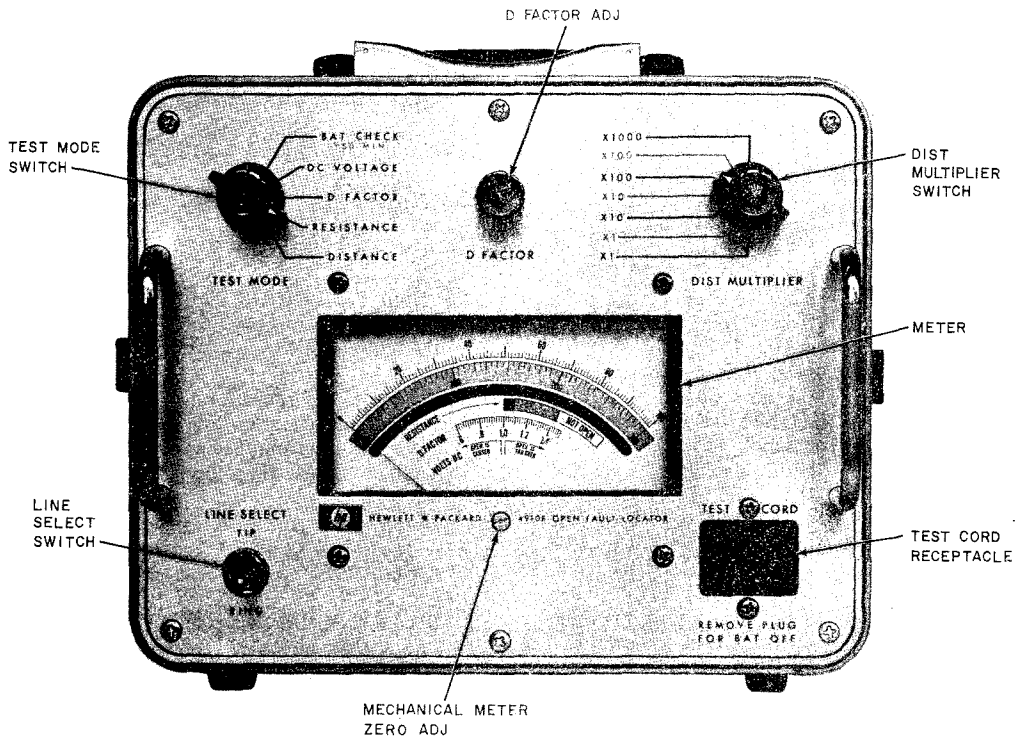

Fig. 2—Controls And Indicators
3. CONTROLS AND INDICATORS (Fig. 2).